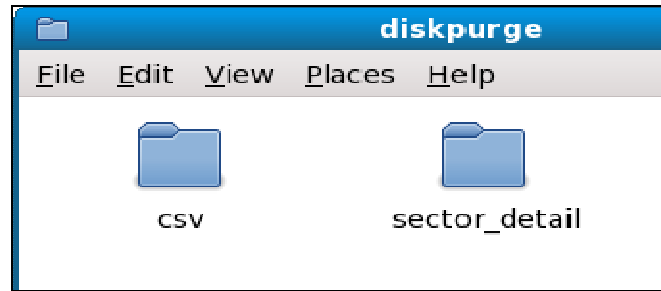

Figure 9: Software Log Directory Window
6.2 After this button is pushed, a window will appear on the screen showing the Enterprise Erase log directory. See Figure 9.